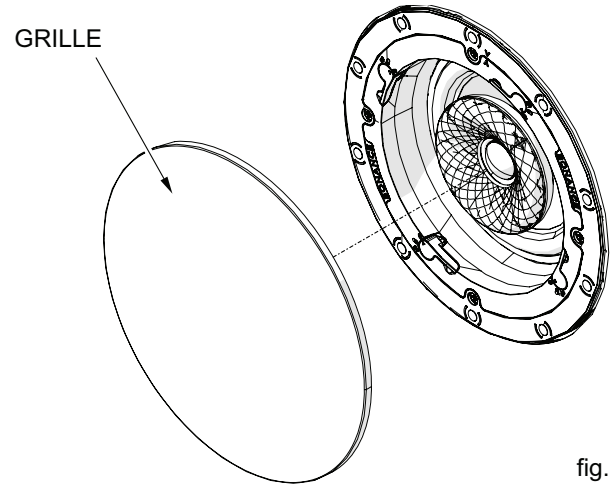

fig. 9
- Place the grille onto the speaker and verify proper fit. (fig. 9)